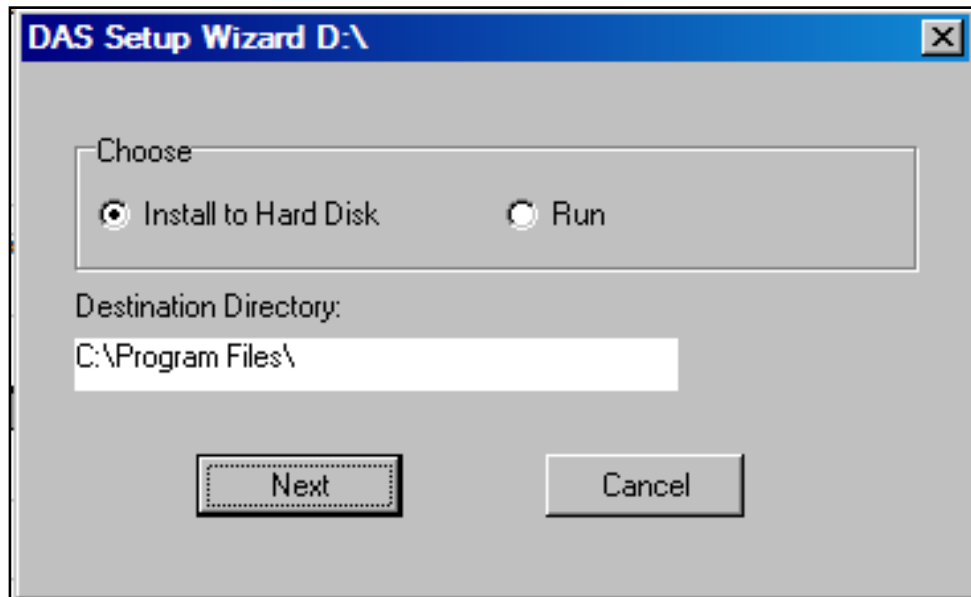

Figure 4-35. DAS Setup Wizard
3. The CD will begin the install wizard, **Figure 4-35**.